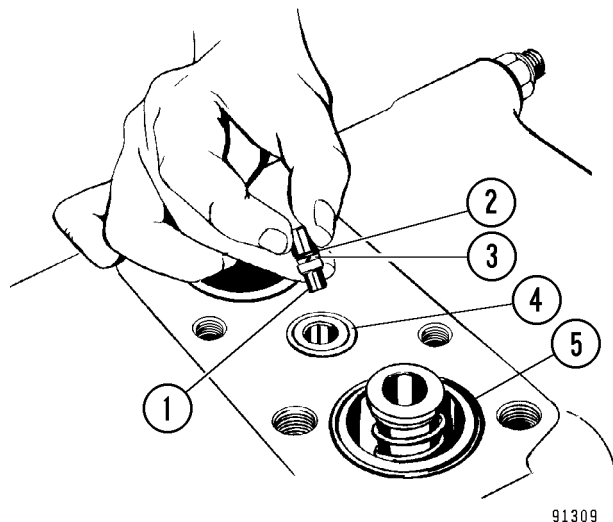

FIGURE 8-8. RESTRICTOR POPPET REMOVAL
4. Remove and discard O-rings (4) and (5, Figure 8-8).
5. Remove restrictor poppet (1). Remove and discard O-ring (2) and backup ring (3), if used. Note the position of the restrictor when removed to ensure correct reassembly.